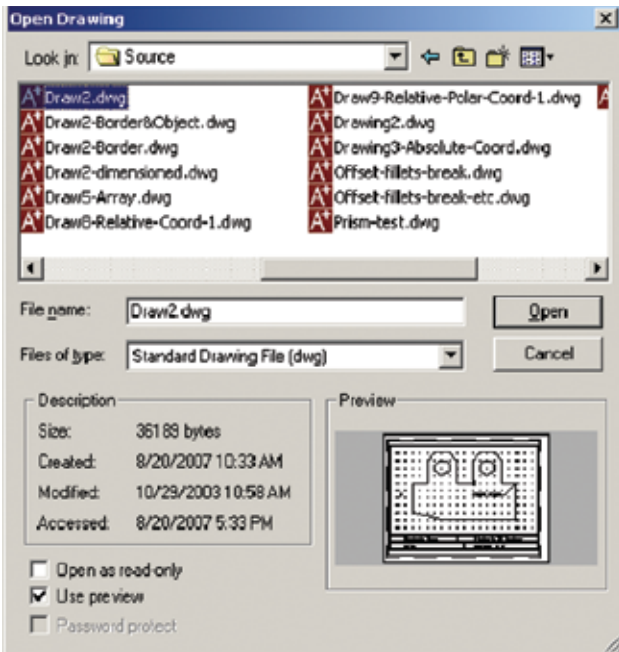

Figure 1.3
- A dialog box (Open Drawing) appears in the middle of the screen (see Figure 1.3.)
- See Figure 1.3